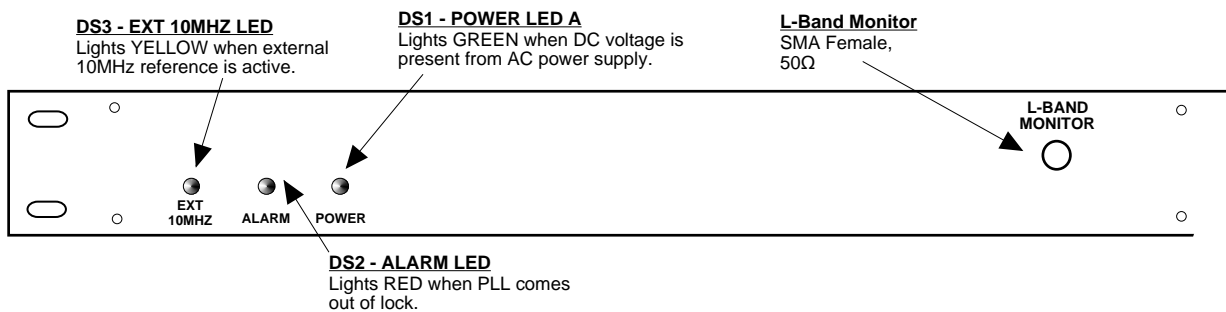

FIGURE 2.2 2116-267#-1200 Front Panel Controls and Indicators
Figure 2.2 shows the front panel indicators.
4. Be sure DS1 (green, DC Power) is on and DS2 (red, Alarm) is off (Figure 2.2).
6. If EXT is selected or AUTO is selected and there is a 10MHz, 3 dBm signal at J2, check that DS3 (yellow, Ext 10MHZ) is on (Figure 2.2).